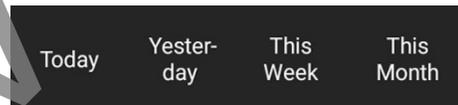

Figure 18. Select Result Period
2. To view the list of results for a different time period, tap one of the result period options shown at the top of the screen (see Figure 18).